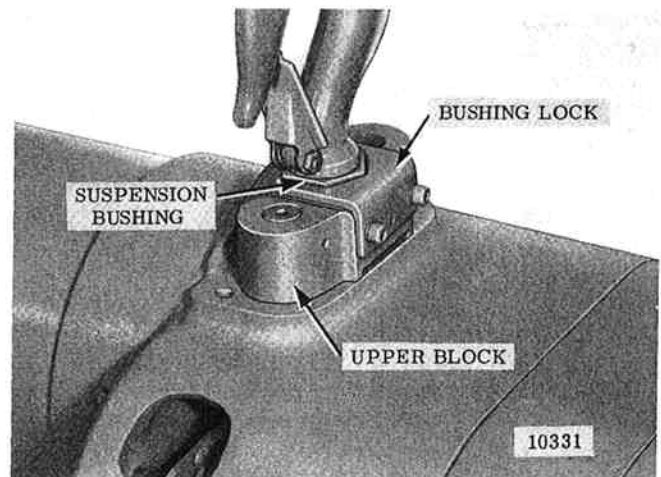

Figure 7-19. View of Upper Hook Assembled To Hoist Frame (2 Ton Models).
(2) On 2 ton models, unscrew two hex socket head screws holding suspension bushing lock assembly to upper block (fig. 7-19) and remove lock. Unscrew suspension bushing from block to remove hook. To disassemble block from frame remove drive pin from nut inside frame and unscrew nut from stud holding body to frame. Remove drive pin securing threaded end of chain anchor in block and unscrew anchor. Block can then be lifted off.